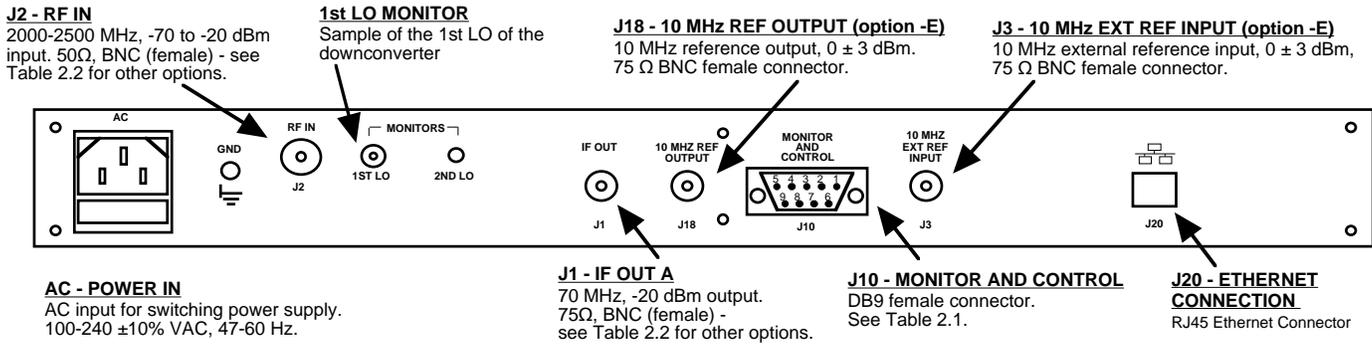

FIGURE 2.2 2016-25-01 Downconverter Rear Panel Inputs/Outputs
2.2 Rear Panel Input/Output Signals - Figure 2.2 shows the input and output connectors on the rear panel.
1. Connect a -20 dBm to -70 dBm signal to RF In, J2 (Figure 2.2)
Alarm indications appear on the LEDs (see figure 2.2).